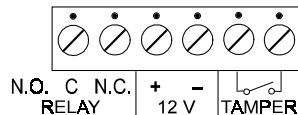

Figure 5. Terminal Block
**Note:** The maximum wiring length given in the table should be divided by the number of detectors connected in parallel. Refer to Figure 5 and connect the wires to the terminal block as outlined below: